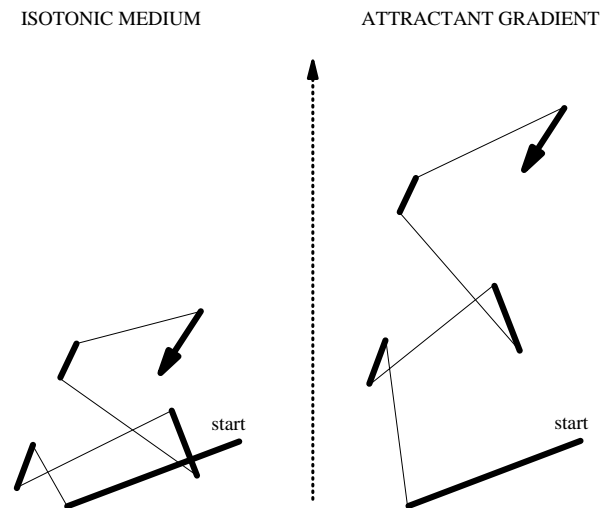

Figure 2: Bacterial chemotaxis motility patterns.
- 0.5 1. a) Kubitschek4 (1974) showed that when  $\ln(1 + R)$  is plotted again divisions/hr a linear line occurs (figure 2). State why there is a linear relationship.